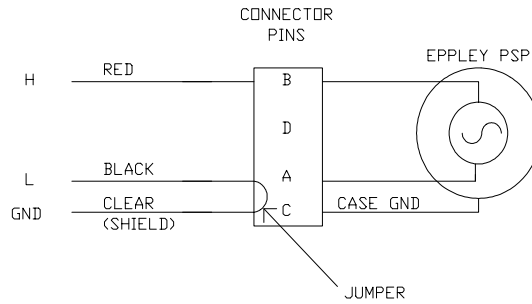

Figure 2. Differential Measurement Connection
If a differential channel is not available, a single-ended measurement (Instruction 1) is a possibility. As a test, wire the PSP as shown in Figure 2 and make single-ended and differential measurements. Compare results to determine the acceptability of a single ended measurement.
Differential and single-ended connections to the datalogger are shown in Figures 2 and 3, respectively.
*AG in Figure 2 refers to Analog Ground in the CR10 which is the same as ground for the 21X and CR7.
On a differential measurement, the low side of the signal is jumpered to AG to keep the signal in common mode range, as shown in Figure 2.